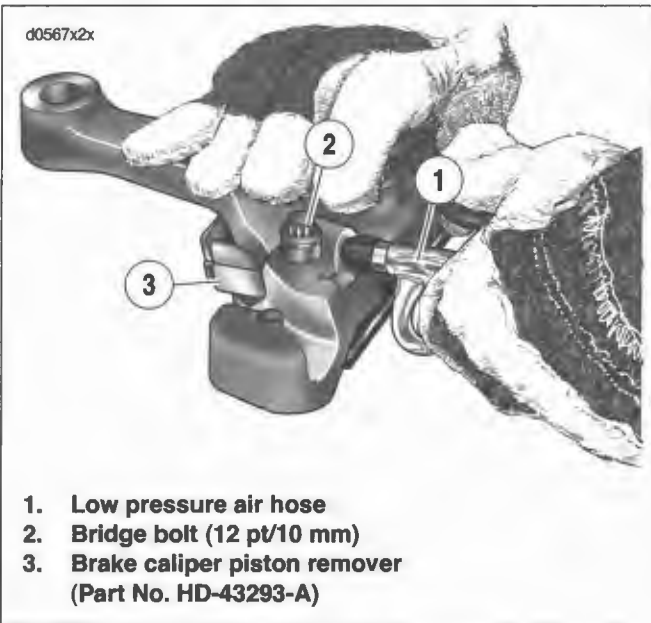
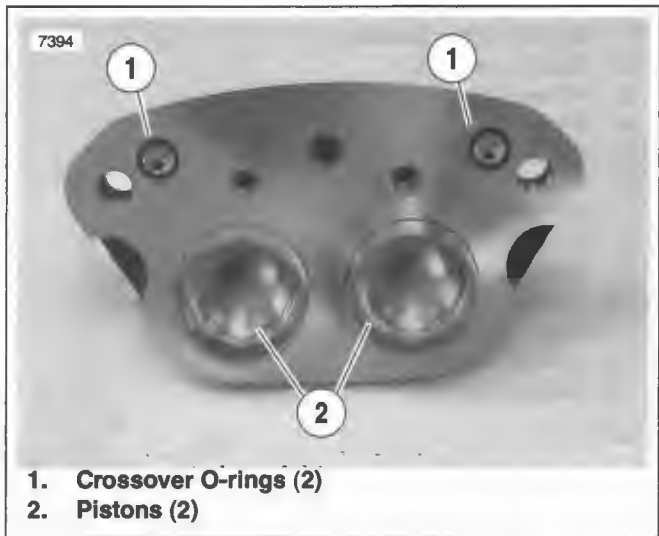

Figure 2-75. Removing Pistons
Figure 2-76. Crossover O-rings and Inside Housing
- 4. See Figure 2-75. Remove pistons.
- a. Place BRAKE CALIPER PISTON REMOVER (3) (Part No. HD-43293-A) between caliper housings.
- b. Insert three bridge bolts (2) (12 pt/10 mm) and tighten securely.
- d. Apply low pressure compressed air (1) to banjo bolt hole to remove pistons from caliper bores.
- 5. See Figure 2-76. Remove and discard both crossover O-rings (1) from inside caliper housing.
- 6. If necessary, wiggle pistons (2) from caliper bores to completely remove.
4. See Figure 2-76. Place two new crossover O-rings (1) on inside caliper housing.